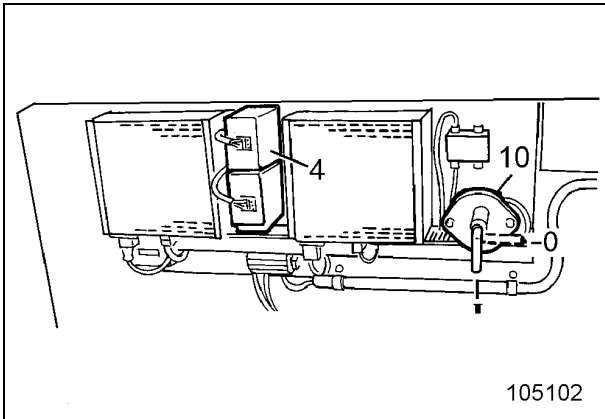

Fig. 1
- battery main switch (10, Fig. 1) ON